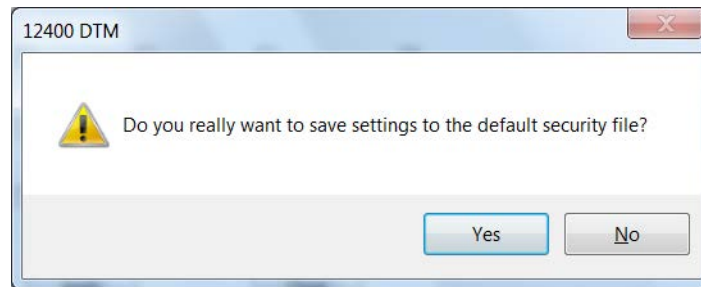

Figure 37 - Save Security Settings to Default File Confirmation
1. Click and a confirmation dialog appears (Figure 37).